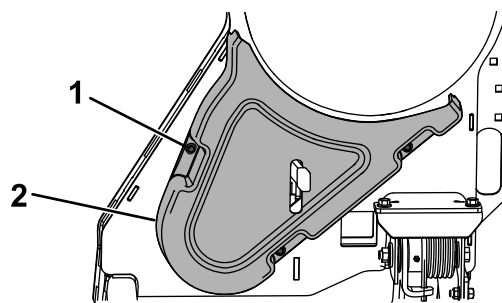

Figure 31
3. Remove the belt cover (Figure 31).